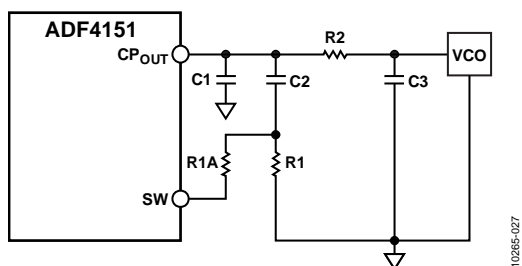

Figure 27. Fast Lock Loop Filter Topology—Topology 2
- An extra resistor (R1A) is connected directly from SW, as shown in Figure 27. The extra resistor is calculated such that the parallel combination of an extra resistor and the damping resistor (R1) is reduced to 1/4 of the original value of R1 (see Figure 27).